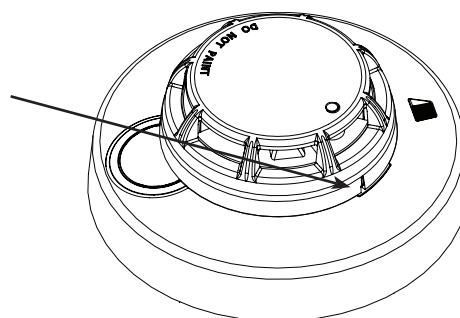

FIGURE 11: Locking Feature
1. Once the detector has been installed the detector locks into the base. To remove the detector from the base, insert a small screwdriver into the slot on the detector (FIGURE 11) and push the plastic tab while simultaneously turning the detector head counter-clockwise.